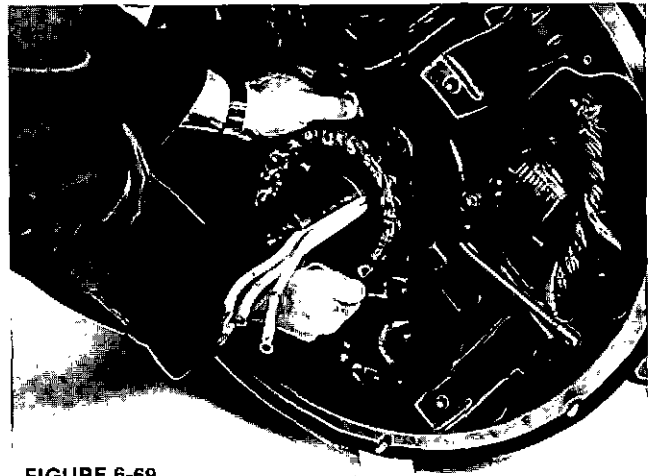

FIGURE 6-69
- Install the PMG stator on its mounting pads, with the leads in the left (9:00 o'clock) inboard position, and secure with the four mounting capscrews and belleville washers. (Figure 6-69 and 6-72.) Torque to 4 ft-lb (5 N-m).